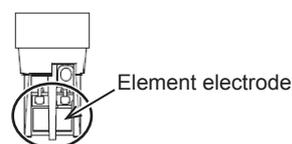

Figure 35.
To clean the element, use a cleaning bottle to flush the electrode of element (marked by ○ in Fig. 35) with pure water.
- (2) Hold and face the element as shown in Fig. 35.
- (3) From slightly upper position to downward, jet pure water from the cleaning bottle for about 2 seconds to flush the contamination on the electrode of element.
- (4) Redo the step (3) for 3–5 times.